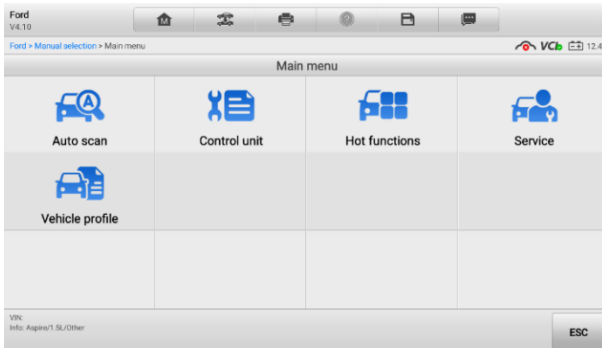

Figure 4-2 Vehicle Diagnostics Screen
5. Tap **OK**. The vehicle will be identified in a few seconds, and once the vehicle information is confirmed, the system will guide you to the Vehicle Diagnostics screen directly. (see Figure 4-2 Vehicle Diagnostics Screen)
The Vehicle Diagnostics screen (Figure 4-2 Vehicle Diagnostics Screen) has 2 main sections: